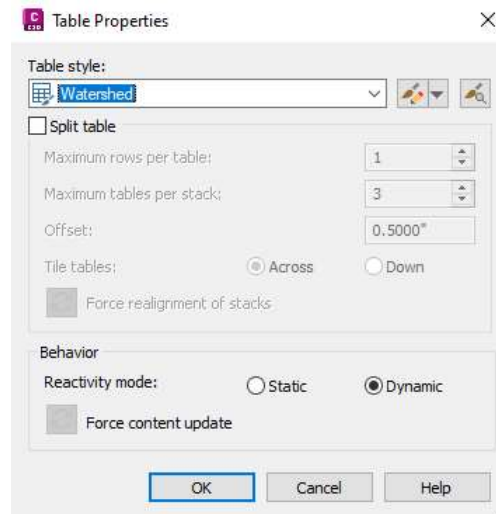

Figure 4-46 The Table Properties dialog box
9. Again, select the **Watersheds Table** and right-click; a shortcut menu is displayed. Choose the **Table Properties** option from the shortcut menu; the **Table Properties** dialog box is displayed, as shown in Figure 4-46.